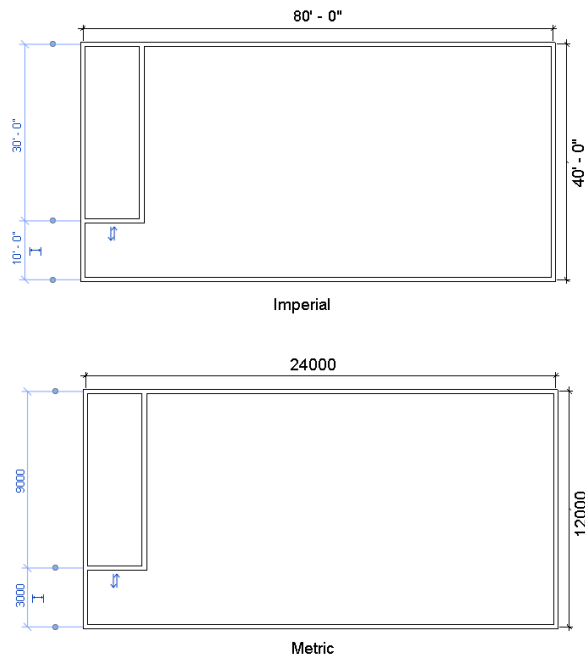

Figure 3-66 Specifying the first interior wall segment
2. Next, move the cursor vertically downwards and enter **30'** for Imperial or **9000 mm** for Metric and click to specify the endpoint of the wall segment; the first interior wall segment is sketched as shown in Figure 3-66.